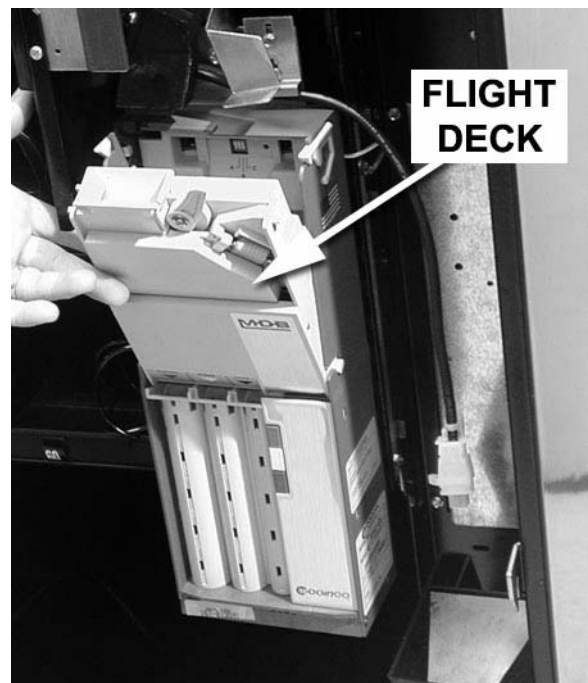

Figure 26
3. Remove or drop the flight deck down as shown (figure 26)